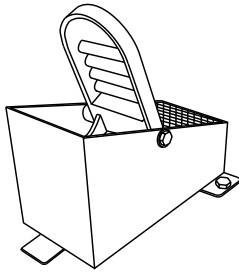

Figure 10. Blade Speed Control Foot Pedal
3. The right foot pedal (Figure 10) controls blade and engine speed. The position of the foot pedal determines the blade speed. Slow blade speed is obtained by slightly pressing the pedal. Maximum blade speed is obtained by fully pressing the pedal.